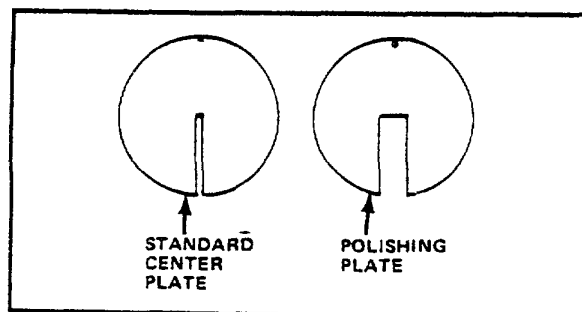

FIG. 44. STANDARD TABLE CENTER PLATE AND POLISHING PLATE
- (3) Install upper file guide and lock it firmly to post with knurled thumb screws. Install special table center filing disk. See Figs. 44 and 45. Insert one band end through table center disk. File cutting edges should face downward.